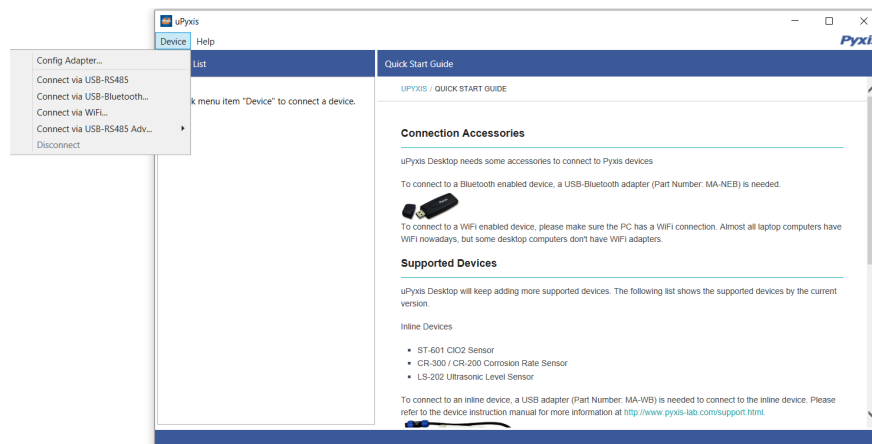

Figure 19.
4. On **uPyxis®** Desktop App, click Device → **Connect via USB-Bluetooth** (Figure 19).
5. If the connection is successful, the SP-395T and its Serial Number (SN) will be displayed in the left pane of the **uPyxis®** window.